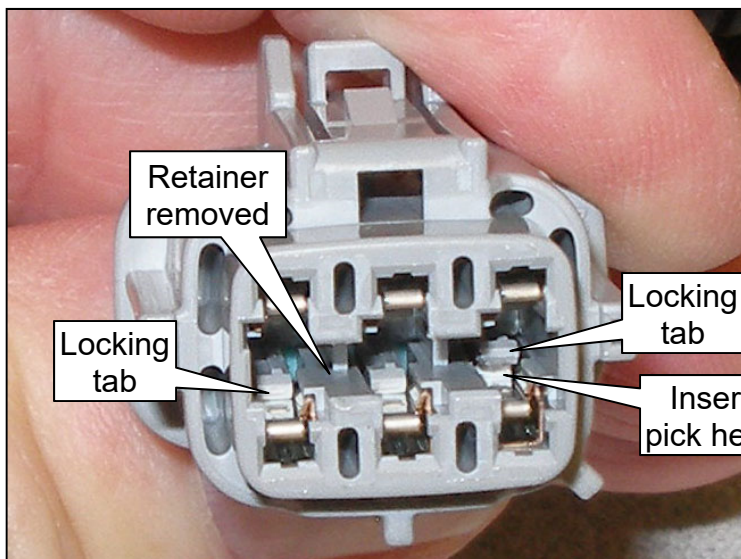

Figure 8
- The right side locking tab in Figure 8 is shown in the unlocked position.